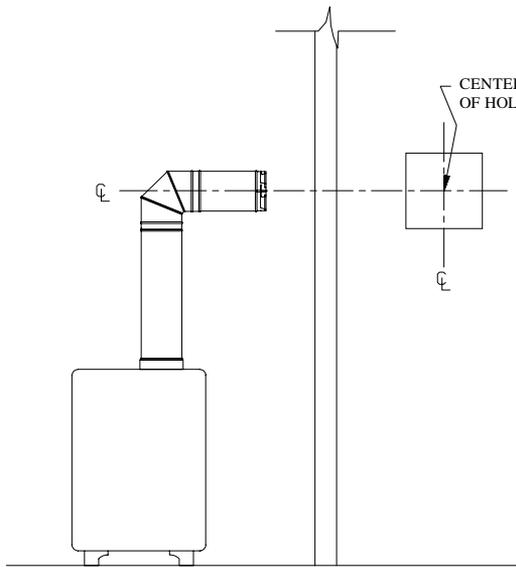

Fig 6
Step 3. With the adaptor and pipe attached to the stove, slide the stove into it's correct location, and mark the wall for a square hole of the appropriate size. Use a 10" x 10" square hole when using 4" x 6-5/8" pipe, and a 10-1/2" x 10-1/2" hole when using 5" x 8" pipe. The centerline of the pipe should line up with the center of the square hole, as shown in Figure 6, unless otherwise specified by the appliance manufacturer. Cut and frame the square hole in the exterior wall where the vent will be terminated. If the wall being penetrated is constructed of